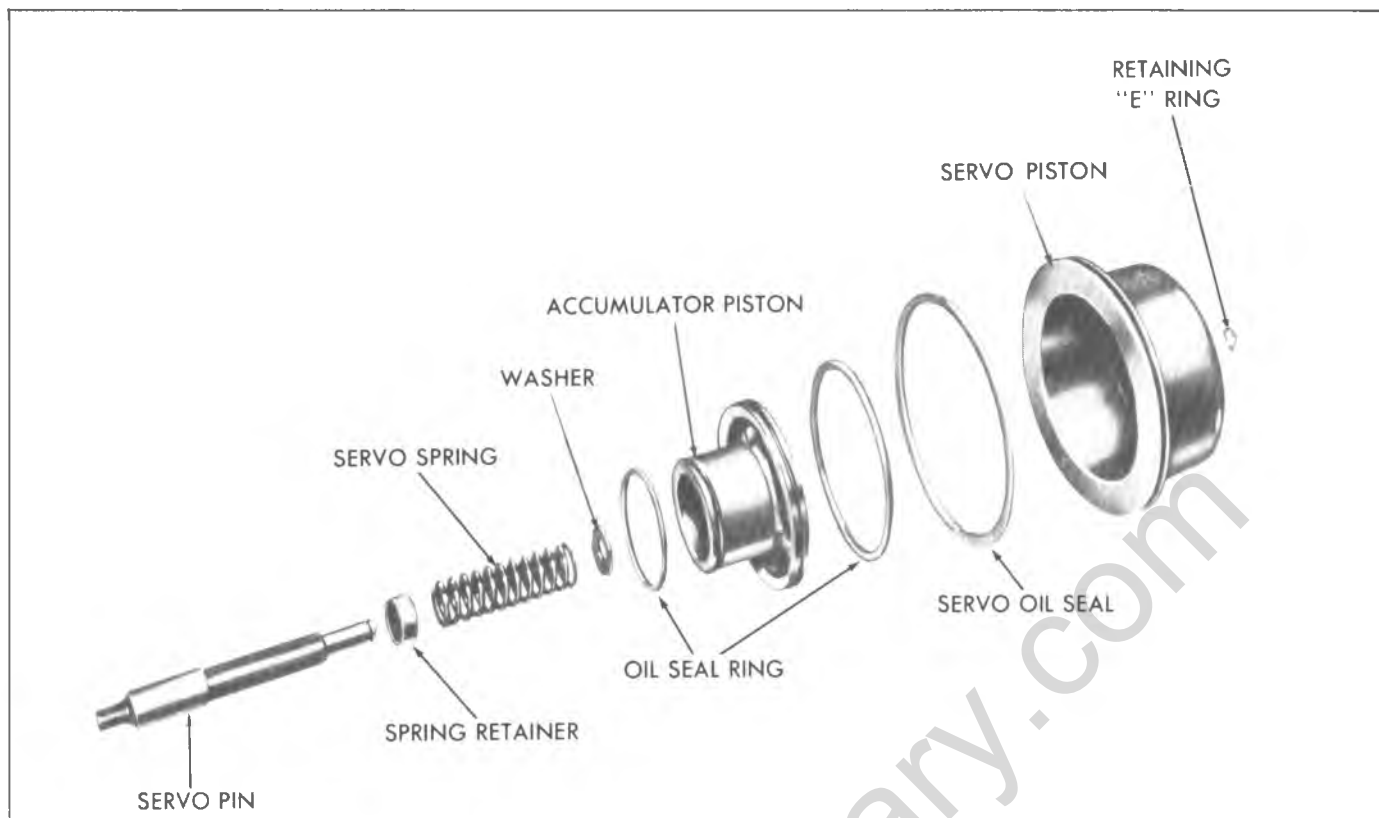

Fig. 52T--Rear Servo and Accumulator Assembly - Exploded View
3. Remove rear servo piston and seal from servo pin (fig. 52T). (Exploded view.)
NOTE: See figure 52T. Do not remove the teflon oil seal rings from the rear accumulator piston, unless the oil seal rings require